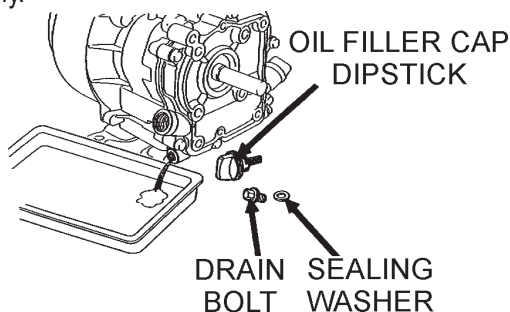

Figure 39. Engine Oil (Draining)
1. Drain the engine oil when the oil is **warm** as shown in Figure 39.